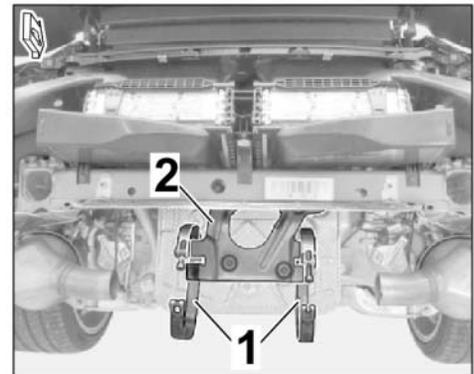

Figure 5
- 2.4.1 Engage new restraining straps (2 pc(s)) with screw heads facing downwards on the muffler holder (⇒ *Figure 5*).